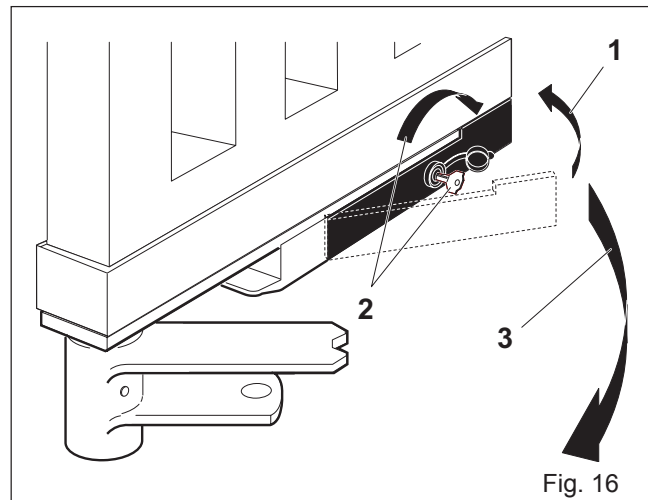

Fig. 16
1. Push the lever back into its home position (Fig. 16 - Ref. 1).
2. Insert the release key into the lock and turn it as far as it will turn in the direction opposite the post (Fig. 16 - Ref. 2).
3. Operate the leaf manually until the lock is engaged in the locking bracket (Fig. 16 - Ref. 3).